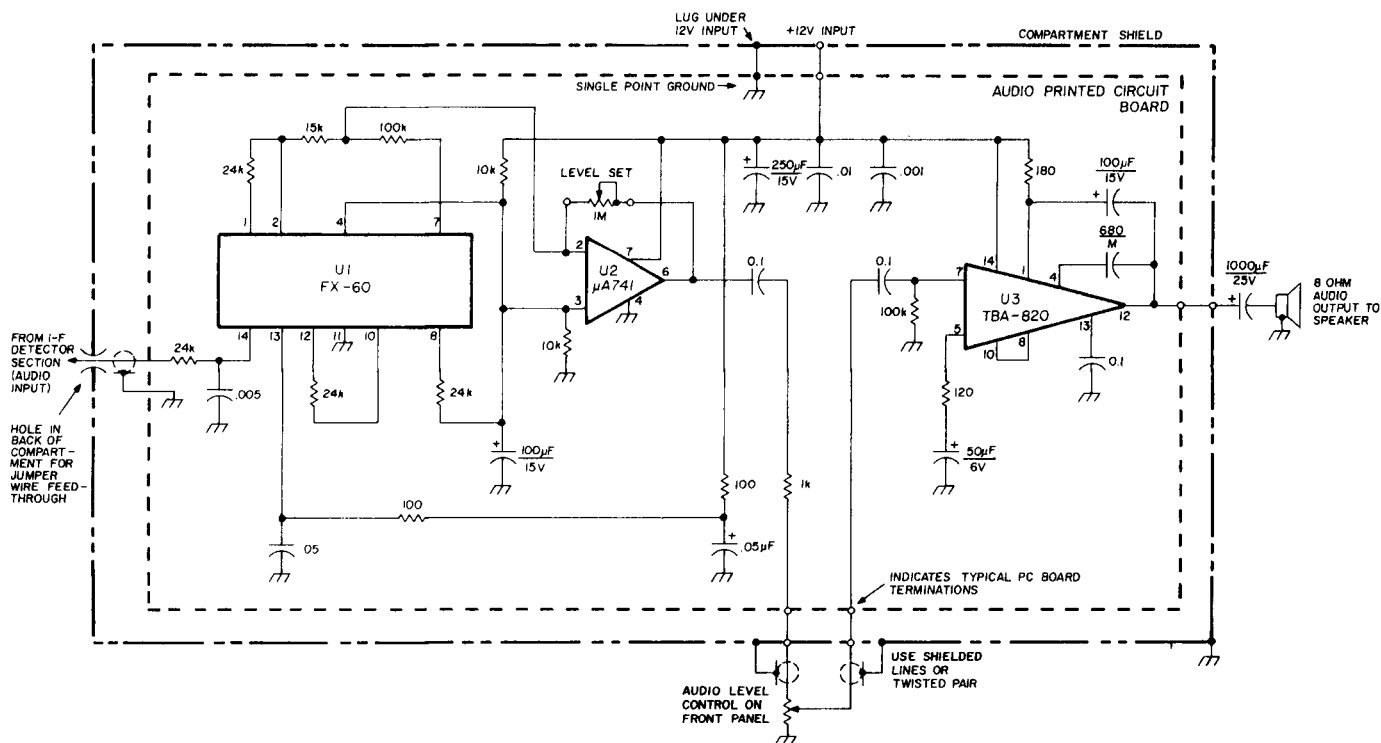

fig. 8. Audio filter and amplifier schematic.
**Audio filter and amplifier.** The detected audio from Q4 is passed through an active lowpass filter-operational amplifier arrangement and further amplified in a one-stage 2-watt audio amplifier U3 (fig. 8). The U1 and U2 lowpass filter design is discussed in considerable detail in references 4 and 5. Normally, U1 and U2 operate from a plus and minus voltage source; however, a simple voltage-divider circuit on pin 3 of U2 establishes an artificial ground for both U1 and U2. The lowpass rolloff starts at 2500
point ground system should be used with the audio circuit. As an aid, those items of special significance are indicated as notes in fig. 8.